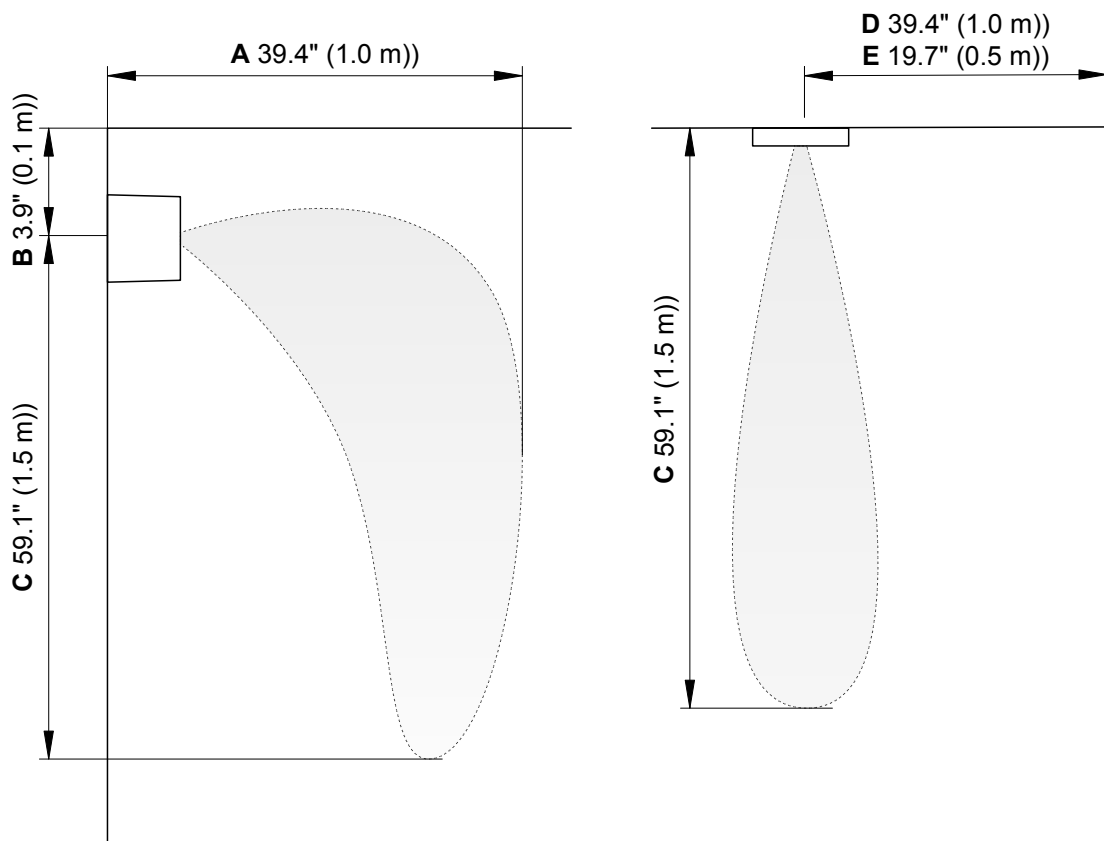

Fig. 18: Required minimum distances in the positioning of humidifier units
- The humidifier units must be positioned so that the mist can spread freely in the room and is not facing obstacles, such as pillars, furniture, cold outer walls, window surfaces, etc. where the humid air could condense. The required minimum distances are stated below and can be viewed in the Fig. 18.